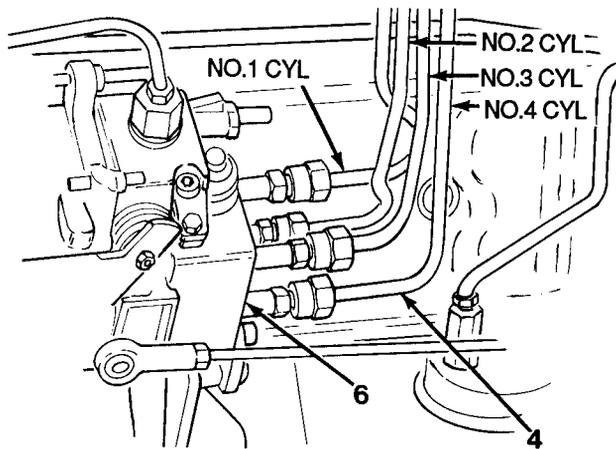
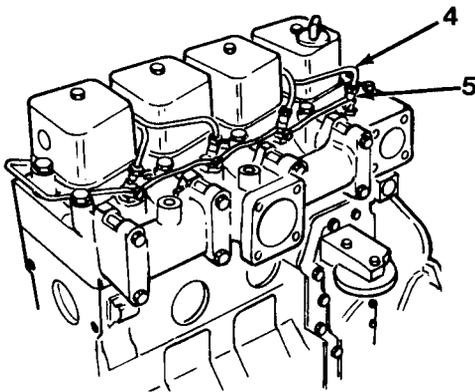

Figure 7-3
Figure 7-2
1. Install No. 2 and No. 1 cylinder high-pressure tubes (4) to injection pump (6, Figure 7-3).
2. Install No. 4 and No. 3 cylinder high-pressure tubes (4) to injection pump (6).
3. Connect four high-pressure tubes (4) to injectors (5, Figure 7-2).